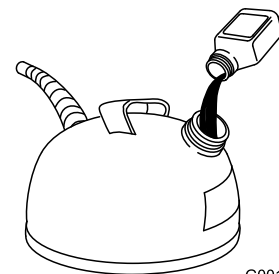

Figure 9
2. Add two-cycle oil to the gasoline according to the chart below (Figure 9):